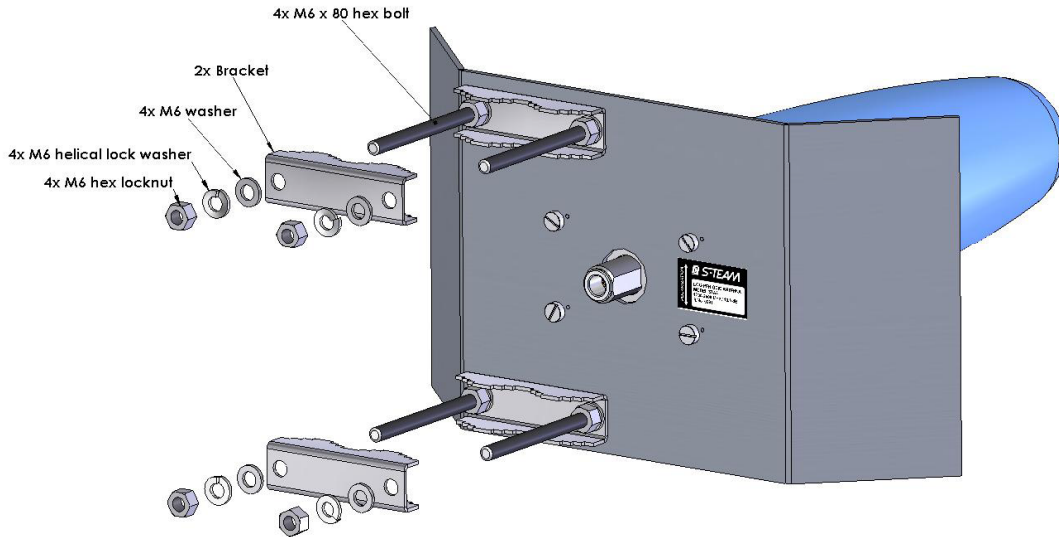

Figure 2
1. Unscrew the four M6 nuts and remove helical lock washers, washers, and the two outer brackets (Figure 2).